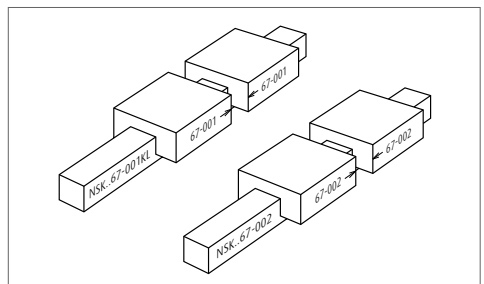

Fig. 10.29 When two rails have the same reference number
- > When two or more rails are used in a single set, serial numbers are in sequence if their reference numbers are the same. The linear guide with smallest serial number has the "KL" mark (**Fig. 10.29**).